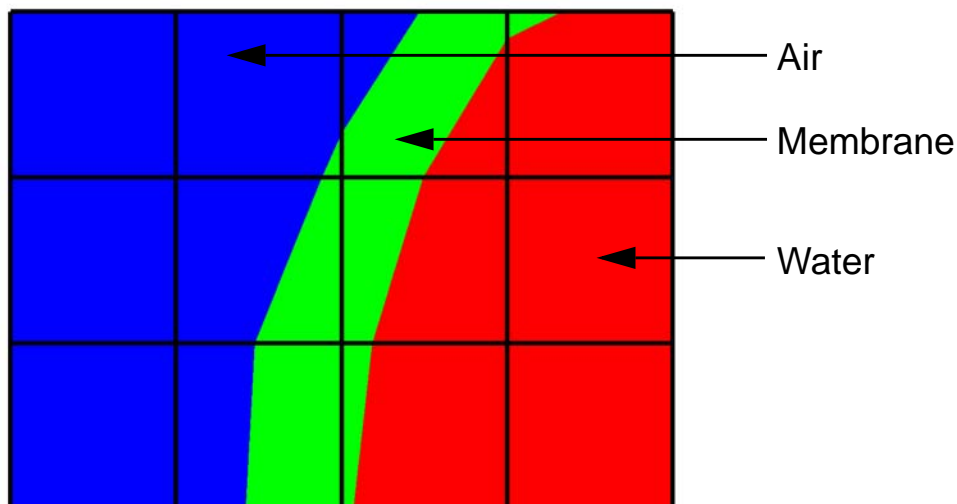
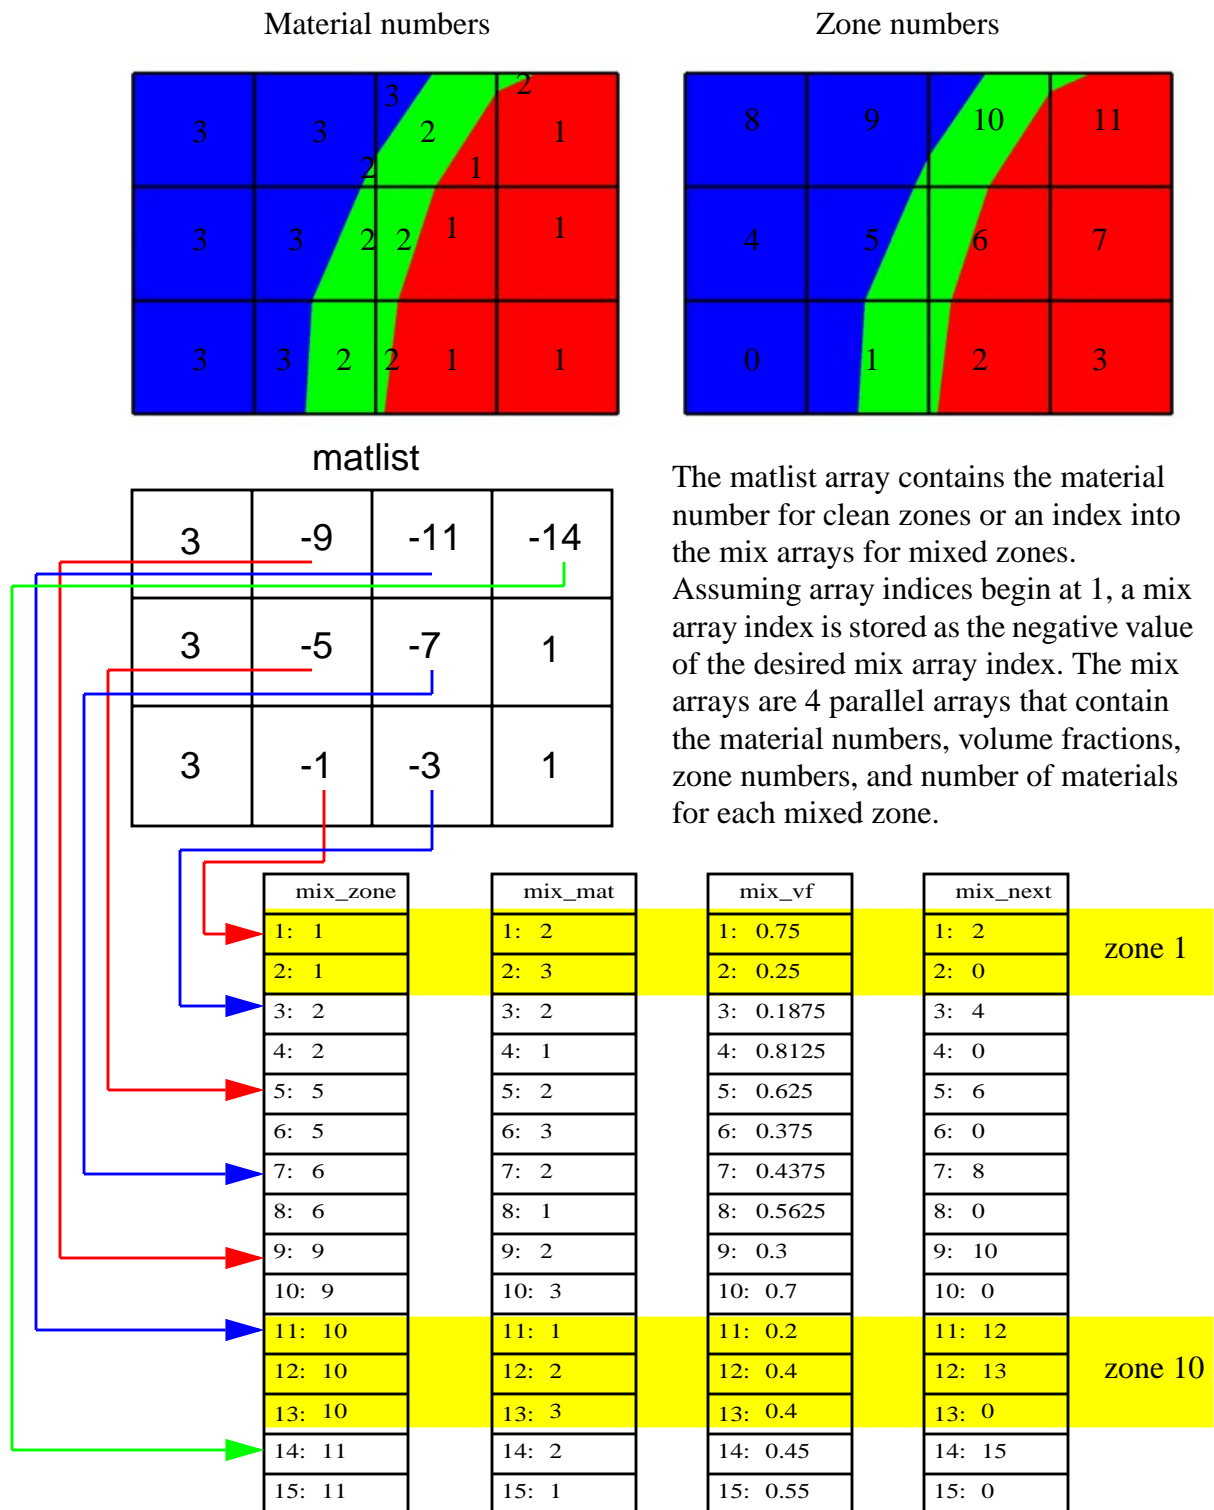

Figure 3-14: A mesh with both clean and mixed material zones
Figure 3-15: Mixed material example
The plot of the material object shown in Figure 3-14 and Figure 3-15 contains three materials: “Water” (1), “Membrane” (2), and “Air” (3). Materials use a `matlist` array to indicate which zone are clean and which are mixed. The `matlist` array is a zone-centered array of integers that contain the material numbers for the materials in the zone. If a zone has only one material then the `matlist` array entry for that zone will contain the material number of the material that fills the zone. If a zone contains more than one material then the `matlist` array entry for that zone will contain an index into the mixed material arrays. Indices into the mixed material arrays are equal to the negative value of the desired mixed material array entry. When creating your mixed material arrays, assume that array indices for the mixed material arrays begin at 1. When you begin assigning material information into the mixed material arrays, use one array index per material in the mixed material zone. The index that you use for the beginning index for the next mixed material zone is the current index minus the number of materials in the current zone. Study the `matlist` array in Figure 3-15. The first mixed material zone is zone 1 and since it is mixed, instead of containing a material number, the `matlist` array for zone 1 contains the starting index into the mixed material arrays, or -1. If you negate the -1, you arrive at index 1, which is the starting index for zone 1 in the mixed material arrays. Since zone 1 will contain two materials, we use indices 1 and 2 in the mixed material arrays to store information for zone 1. The next available array for other zones wanting to add mixed materials to the mixed material arrays is element 3. Thus, when zone 2, which is also a mixed zone, needs to have its information added to the mixed material arrays, you store -3 into the `matlist` array to indicate that zone 2’s values begin at zone 3 in the mixed material arrays.
The `mix_mat` array contains the material numbers of the materials that occupy a zone. Material numbers correspond to the names of materials (e.g. 1 = Water) and should begin at 1 and increment from there. The range of material numbers used may contain gaps without causing any problems in VisIt. However, if you create databases that have many domains that vary over time, you’ll want to make sure that each domain has the same list of materials at every time step. It is not necessary to use a material number in the `matlist` array or in the mixed material arrays in order to include it in a material object. Look at element 11 in the `mix_mat` array in Figure 3-15. Element 11 contains material 1, element 12 contains material 2, and element 13 contains material 3. Since those three material numbers are supposed to all be present in zone 10, they are all added to the `mix_mat` array. The same array elements in the `mix_vf` array record the amount of each material in zone 10. The values in the `mix_vf` array for zone 10 are: 0.2, 0.4, 0.4 and those numbers mean that 20% of zone 10 is filled with material 1, 40% is filled with material 2, and 40% is filled with material 3. Note that all of the numbers for a zone in the `mix_vf` array must sum to 1., or 100%.